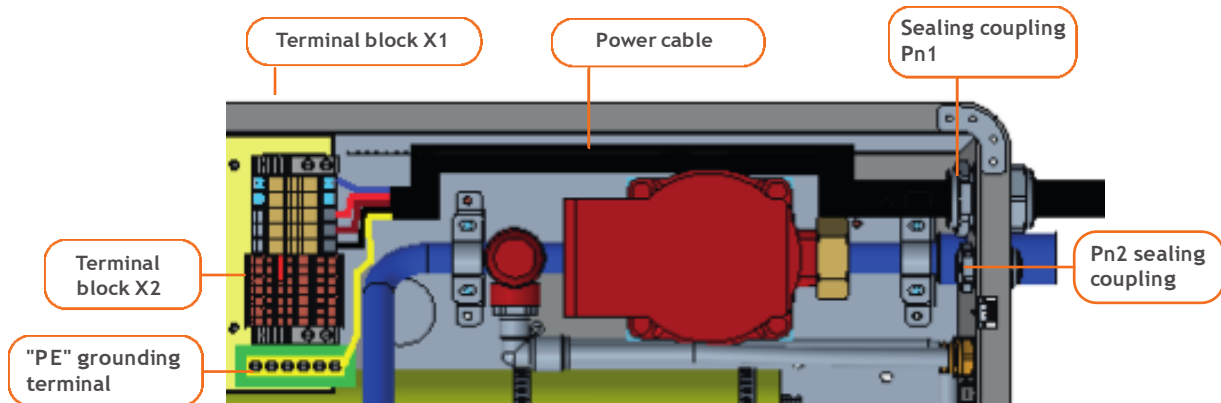

Figure 10 - Laying the power supply cable inside the boiler
5.3.4 Insertion of cables into the electric boiler is carried out in the places of installation of sealing couplings in the lower part of the boiler body (see Figures 2, 10), the power cable must be passed through the sealing coupling Pn1, and other wires Pn2. Laying the power supply cable inside the boiler must comply with Figure 10.